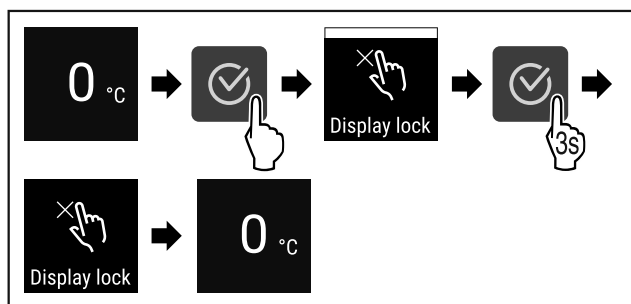

Fig. 97
- ▶ Carry out steps (see Fig. 97).